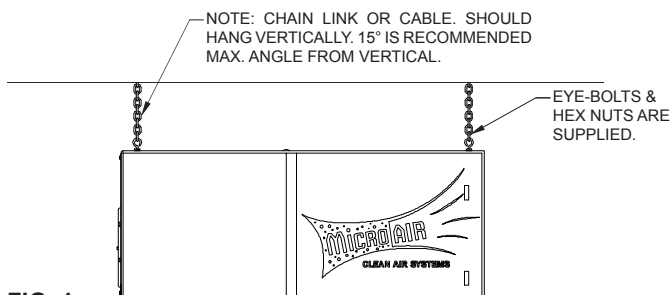

FIG. 1
2. Once eye bolts are secured, the MX 3510 is ready to be hung in an appropriate location. (See **FIG. 1**)